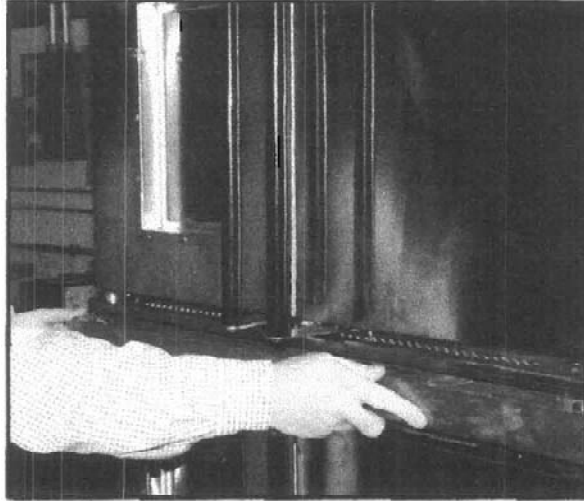

Figure 11 Oven Drip Pan Removal
3. Remove the drip pan from the front of both ovens. See Figure 11.